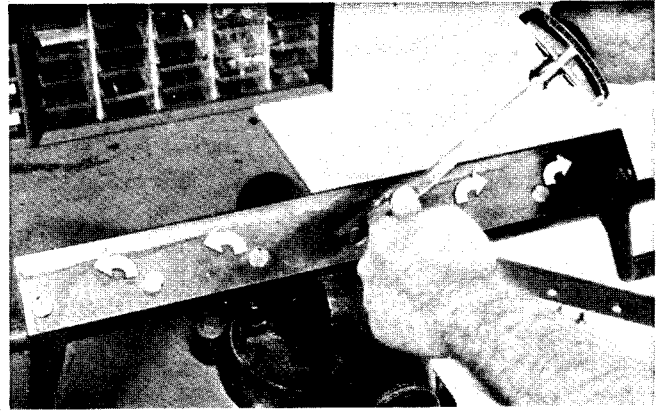

Figure 25
4. Install new bedknife with the proper bedknife screws (57-4910). Bedknife screws must bottom out on the bedknife, not the bedbar. Tighten the screws to a torque of 200 in-lb, working from the center toward each end of the bedbar (Fig. 25).